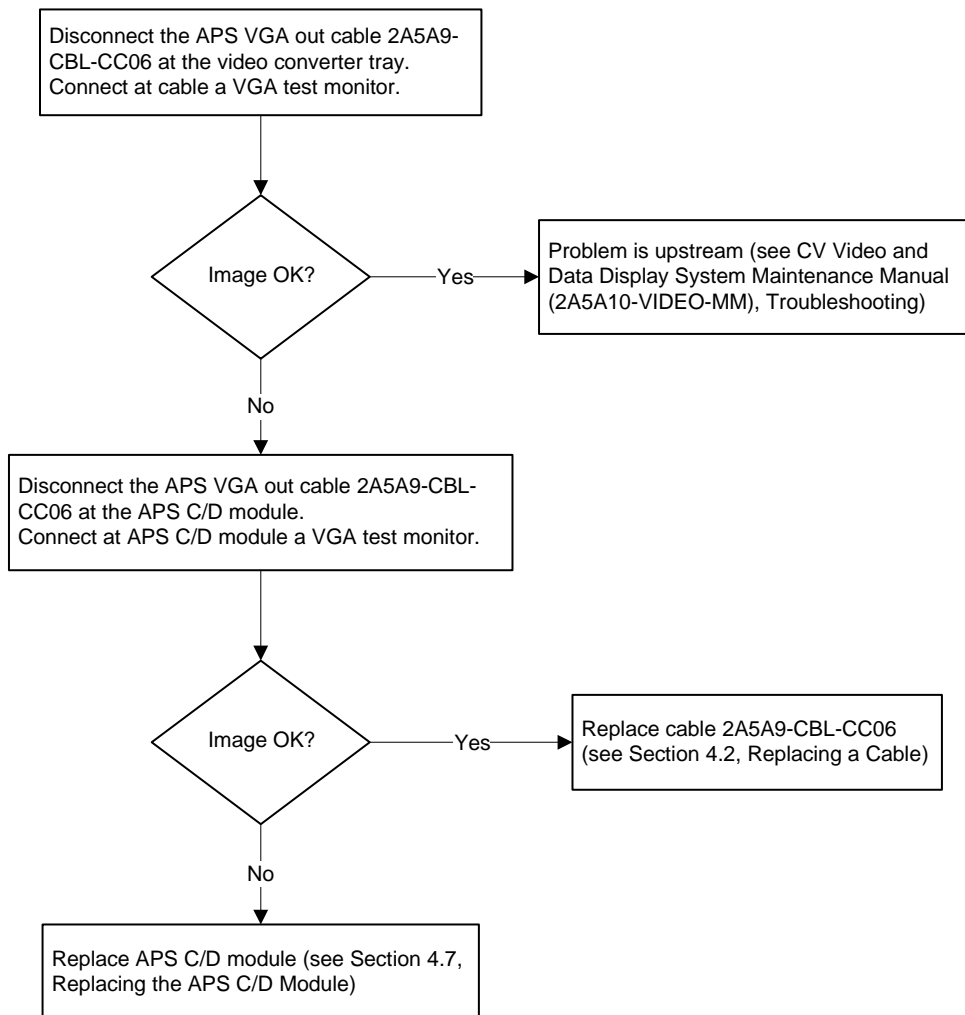

Figure 11 Troubleshooting – APS C/D Module Doesn't Display Image
1. Follow the troubleshooting steps in Figure 11.